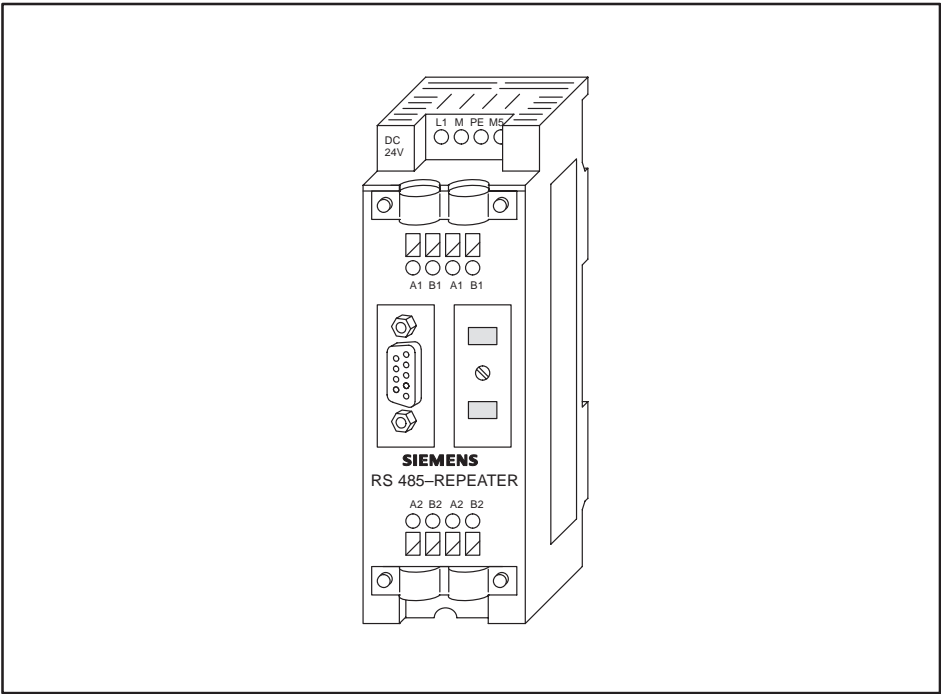

Figure 3-3 PROFIBUS Repeater
**PROFIBUS Repeater** A PROFIBUS repeater available from Siemens is shown in Figure 3-3. The repeater connects two RS-485 segments, enabling expanded physical networking. Nine repeaters may be used in a series. A standard PROFIBUS repeater is available from Siemens; specify 6ES7 972-0AA00-0XA0 (9.6 Kbits to 12 Mbits).